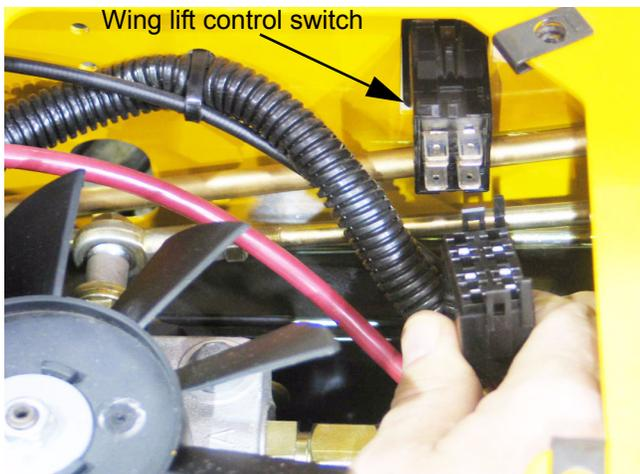

Figure 28.15
28.15. **Wing lift control switch:** To remove the switch: See Figure 28.15.